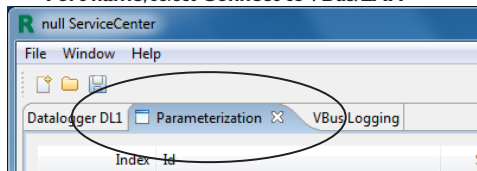

Fig. 4
- ➔ Click on the tab **Parametrization** (Fig. 4)